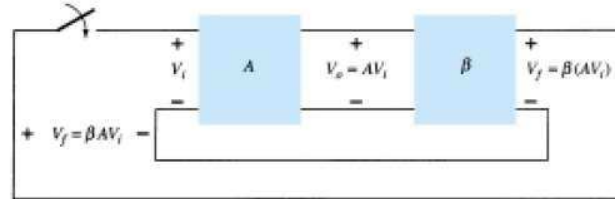

Figure 18.18 Feedback circuit used as an oscillator.
- To understand how a feedback circuit performs as an oscillator, consider the feedback circuit of Fig. 18.18.